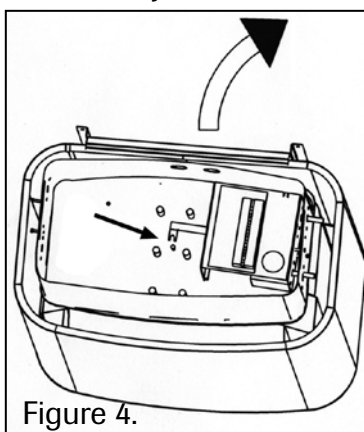

Figure 4.
- Unscrew the attaching screw connecting the middle resistor and the terminal block which is located at the bottom of the junction box. This will enable you to turn the leg of the terminal block to the side from underneath the screw (Figure 4).